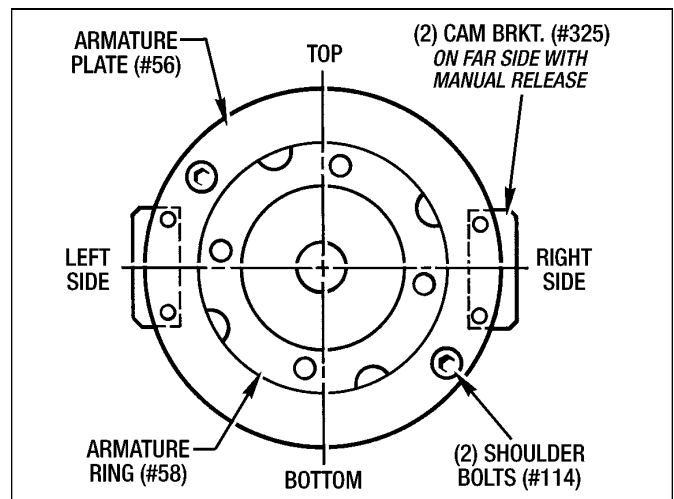

Figure 7.5 - Armature Plate Position - MSB3 and MSB4
- Attach the Coil (#284) with (1) Lockwasher (#275) and (1) Screw (#153). **Torque to 60 Ft. Lbs.**
- Set the Armature Plate (#56) and Armature Ring (#58) in position on the springs. (See Figure 7.5). Insert the (2) Shoulder Bolts (#114) and tighten down evenly to compress the Springs (#36).